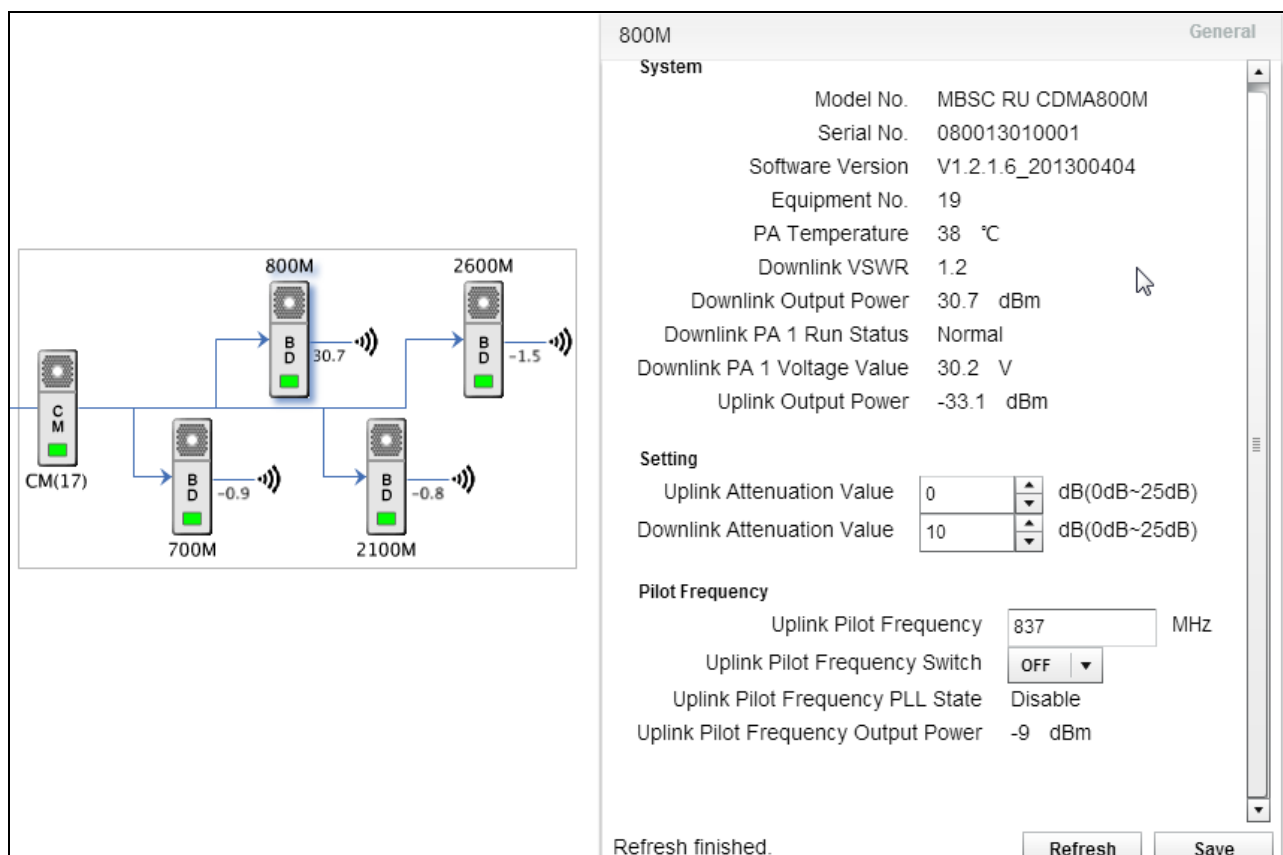

Figure 52 – Up/Down Link Verification
1. Click on the RU for the desired frequency band. The component window ;will pop up as shown in Figure 52 – Up/Down Link Verification